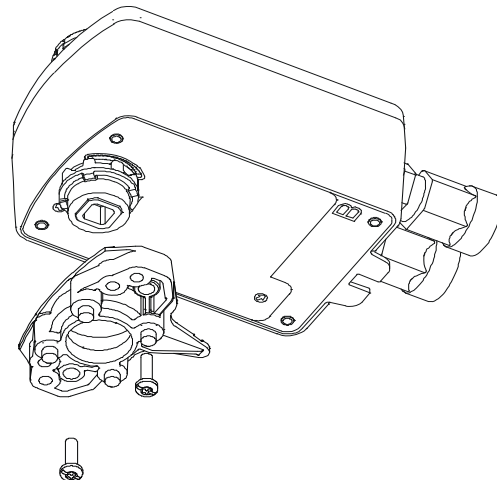

Figure 7: Installing the Linkage
5. Install linkage base on Side B using the two #8-32 x 0.625 in. long screws (Figure 7). The recommended torque is 29 to 33 lb-in. (3.3 to 3.7 N·m).